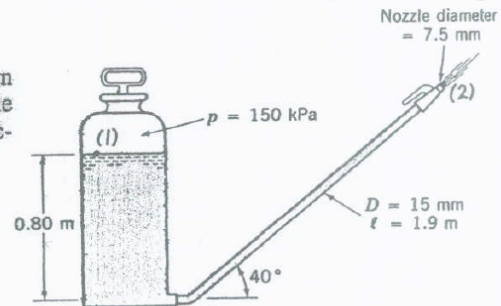

FIGURE P8.93
8.93 Water flows from the nozzle attached to the spray tank shown in Fig. P8.93. Determine the flowrate if the loss coefficient for the nozzle (based on upstream conditions) is 0.75 and the friction factor for the rough hose is 0.11 .